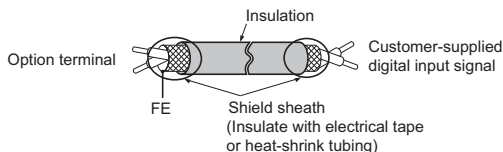
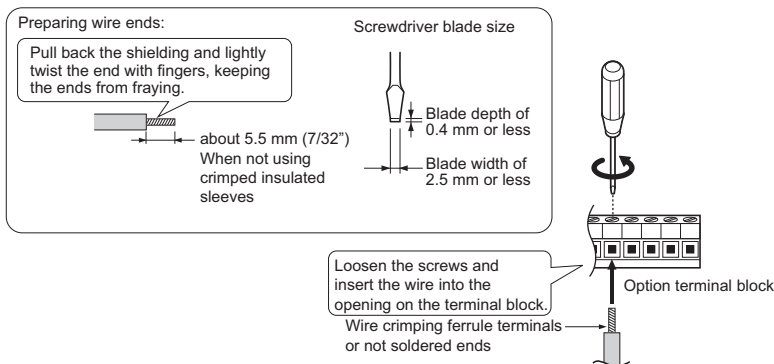

Figure 6 Prepare Ends of Shielded Cable
Figure 7 Connect Cable Wiring
4. Prepare and connect the wire ends as shown in Figure 6 and Figure 7. Refer to Wire Gauges and Tightening Torques on page 30 to confirm that the proper tightening torque is applied to each terminal. Take particular precaution to ensure that each wire is properly connected and wire insulation is not accidentally pinched into electrical terminals.
5. Wire the customer-supplied digital input signal to the terminal blocks on the option according to Figure 7. Refer to Figure 17 for the DI-A3 Option connection diagram. Refer to Table 5 for a detailed description of the option terminal functions.